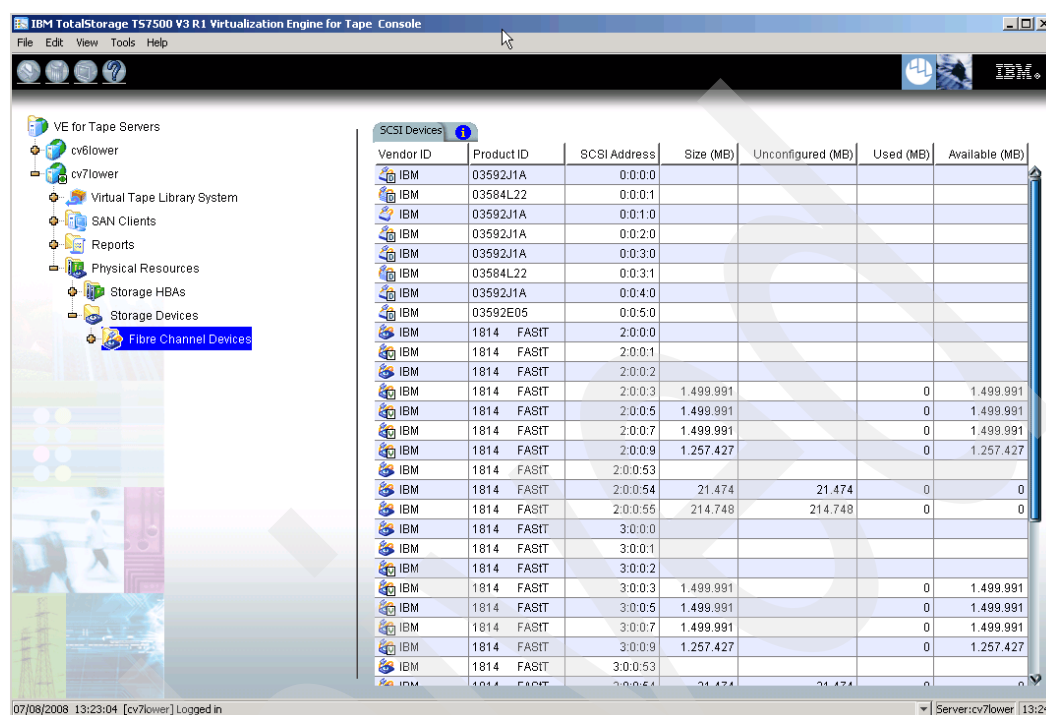

Figure 13-14 Green V on virtualized devices
- Now is time to verify that the newly virtualized devices display in the list of devices. Virtualized devices are indicate by a green V beside the Fibre Channel device icon (Figure 13-14).